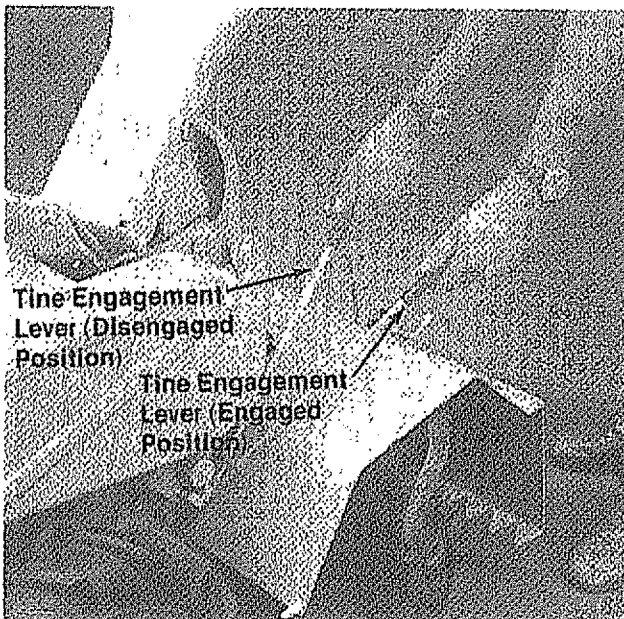

FIGURE 27.
- A. To engage tines move the lever outward. To disengage tines move lever inward. See figure 27.
2. Place the tine engagement lever in the disengaged position. See figure 27.